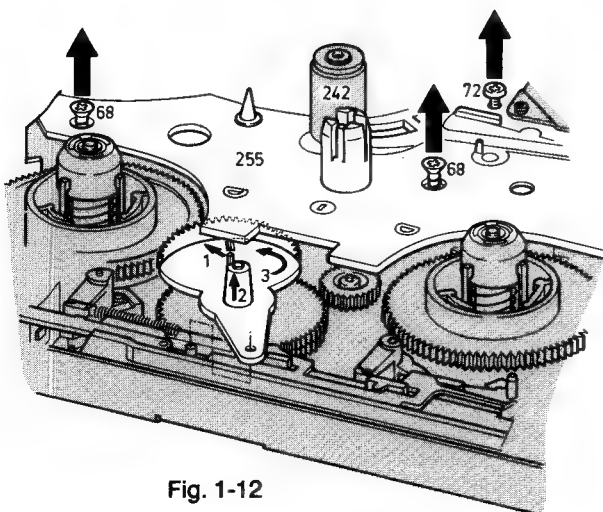

Fig. 1-12
- Undo the front three fixing screws (top plate) about 5 mm. (Fig. 1-12).